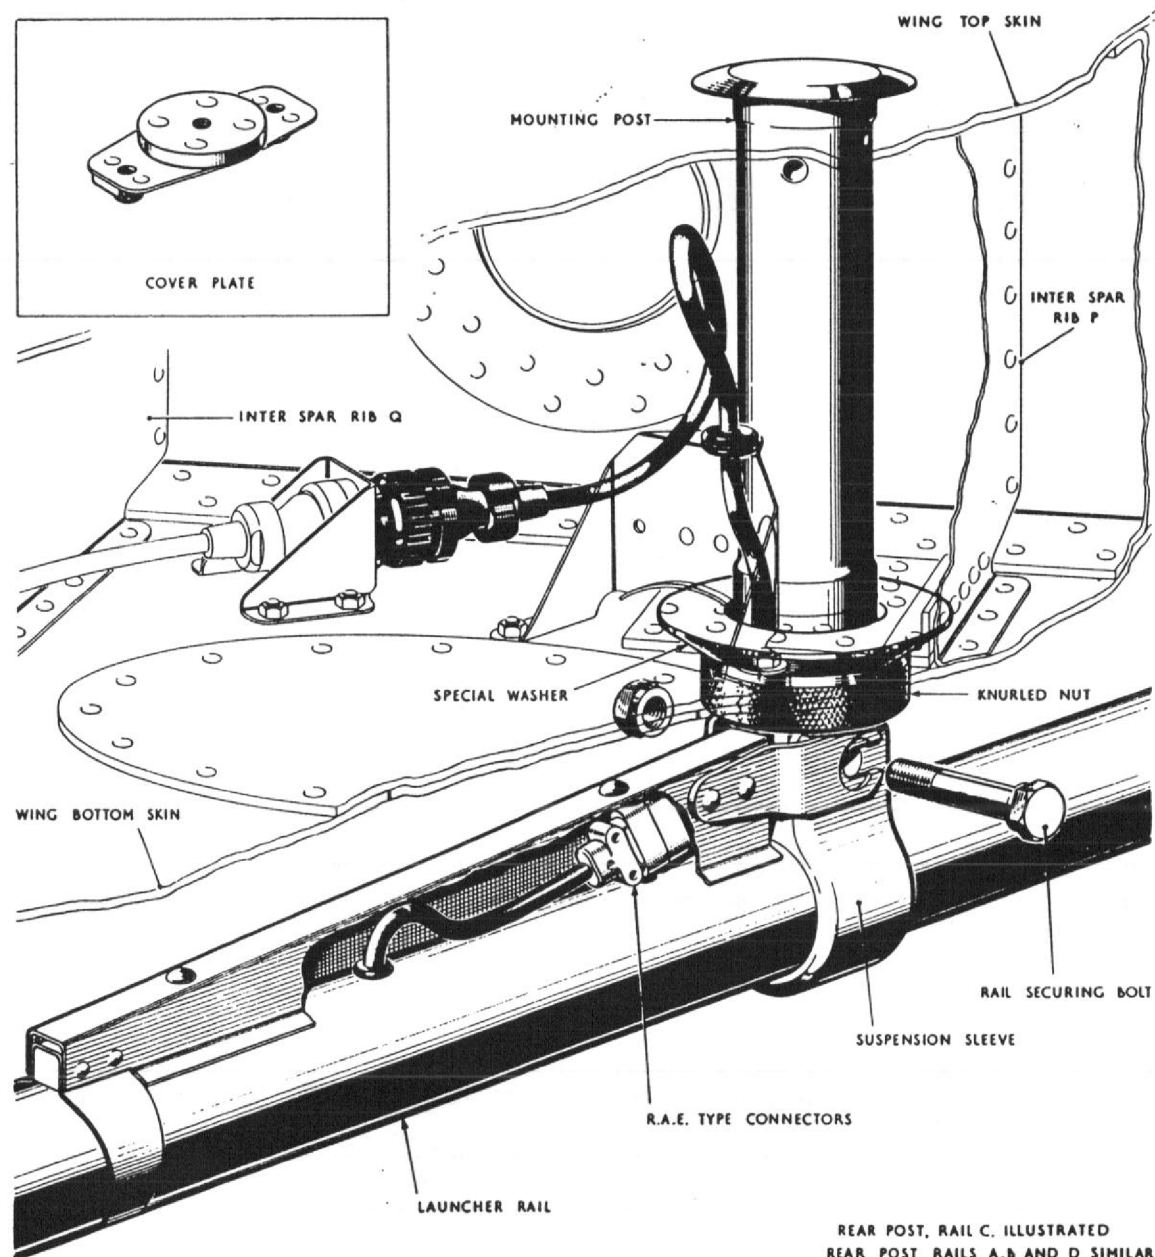

Fig. 1 Launcher rail attachment
- (2) Before assembly of the rear posts, pull the electrical cables down through the apertures in the wings. These cables are stowed in the wings, when R.P. posts are not fitted, with the cable plug fitted into spring clips mounted on brackets adjacent to the rear post apertures.
- (3) Before fitting the posts, lubricate the thread on the post, the spherical end of the nut and the spherical recess in the washer with grease XG-275.
- (4) Tighten the bronze securing nuts by hand only.
- (5) Fit the launcher rails to the eye-ends of the posts, using the special high-tensile steel bolts provided.
(6) Make electrical connection by fitting the cable plugs into the sockets of the launcher (as shown in fig. 1). Fit the cable guards, which are secured by the rear post rail securing bolt.
(7) When assembly is complete, use 22 s.w.g. non-corrodible wire to specification D.T.D. 189 or 161 to lock the knurled nuts.